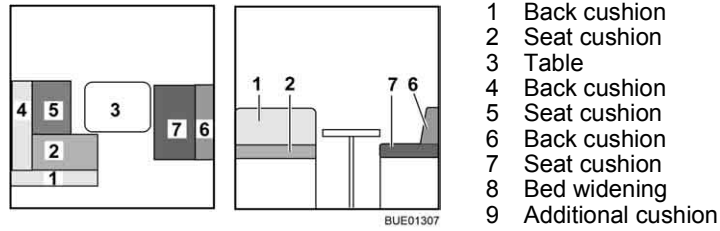

Fig. 153 Prior to conversion
- Convert the table (Fig. 153,3) to a bed foundation (see section 6.11).
- Remove the back cushion (Fig. 153,1) and lay it aside.